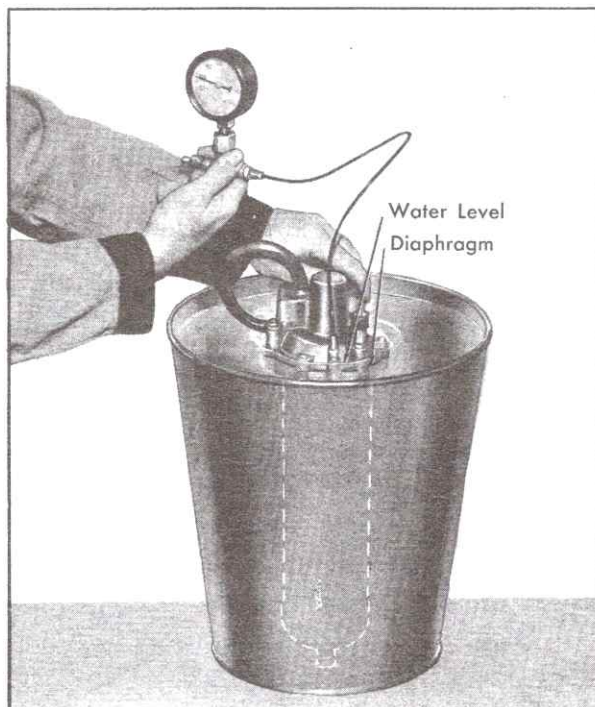

Fig. 4-15 Checking Compressor Assembly for Leaks
3. Route an eight inch rubber hose between vacuum and vent ports, Fig. 4-15.
4. While holding assembly in a vertical position with reservoir end down, immerse in water until the diaphragm is just submerged, Fig. 4-15. Do not submerge completely, as water can enter around the cover gasket. Observe for air leaks at